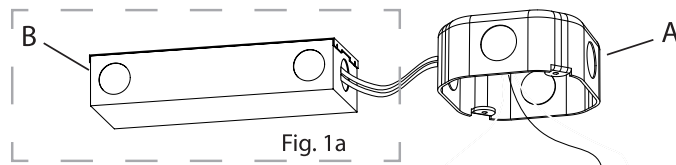
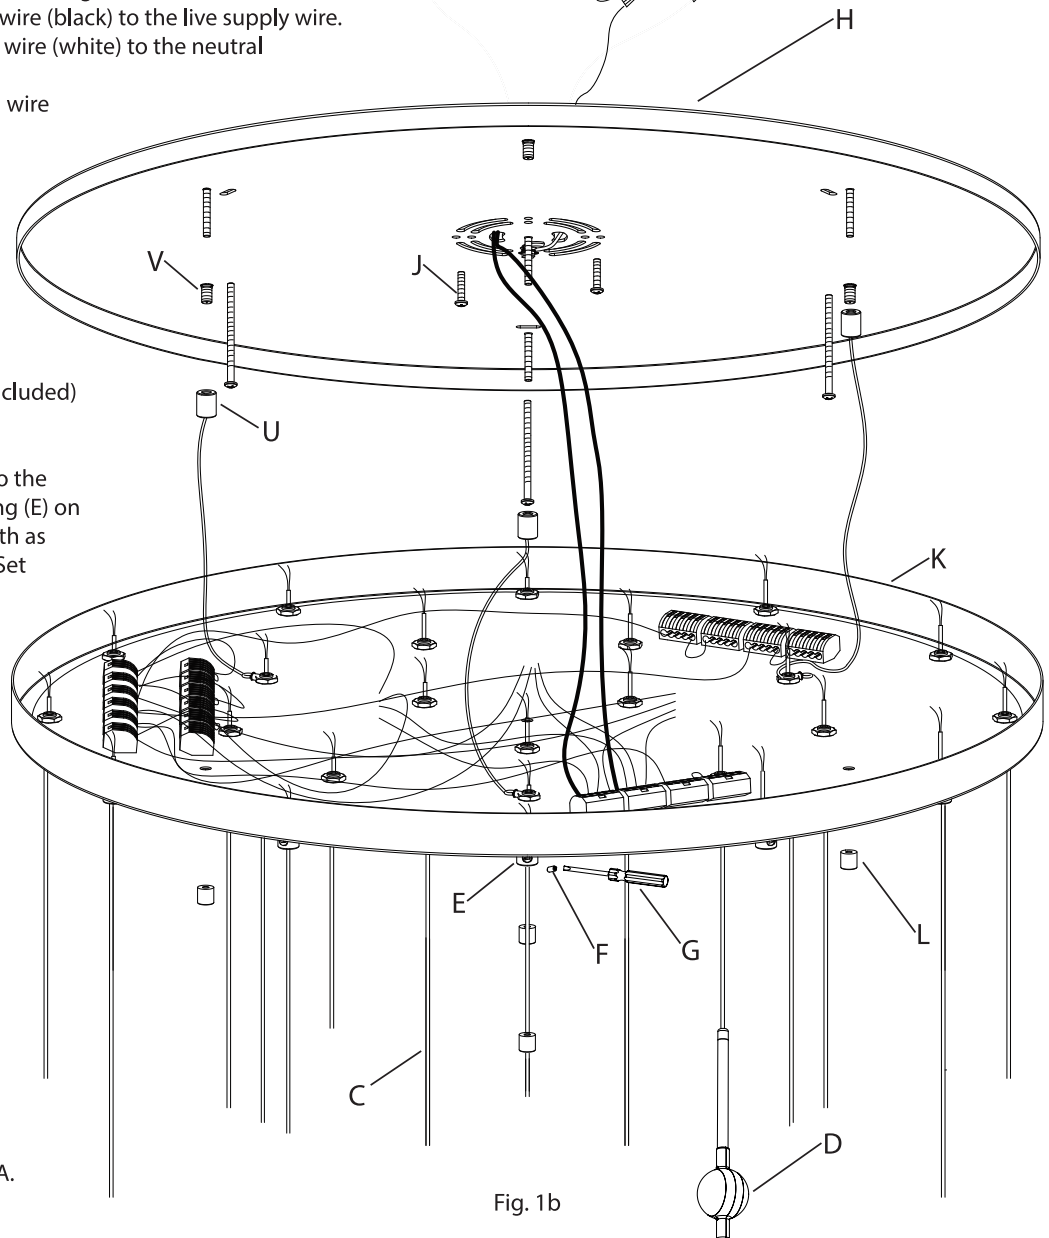

Fig. 1a
Fig. 1b
**Remote Power Supply Installation (Fig. 1a):**
1. Shut off power to the Outlet Box (A).
2. Install the Power Supply (B) in a remote and accessible location near the fixture in accordance with local electrical code. Make appropriate electrical connections using wire nuts:
- a. Connect the Power Supply's (B) live wire (black) to the live supply wire.
- d. Connect the Power Supply's positive (+) output wire to the required length of red wire (not included) to reach the Outlet Box (A).
**Power Feed Installation (Fig. 1b):**
3. Feed the Power Connector Cord (C) to the Universal Hub (D) through the Bushing (E) on the Power Feed. Adjust the cord length as desired, and secure with the Slotted Set Screw (F) using the provided Screwdriver (G). Reserve excess Cord in the canopy (K).
4. Attach the Mounting Plate (H) to the Outlet Box (A) using the two Outlet Box Screws (J).
5. Connect the fixture wires to the lever nuts (R) by pulling up on the lever for an empty slot, inserting the wire, and pushing the lever back down to lock. The inner stranded conductor (S) and the outer braided conductor (T) on each cord (D) must be connected to separate lever nuts, as shown in Appendix B. Reserve extra cords (D) and lever nuts (R) in the canopy (K). If shortening of the cords is necessary refer to Appendix A.
6. Screw safety straps (U) from canopy to studs (V) on mounting plate (H).
- a. Connect the positive (red) low voltage wire from the Power Supply (B) to the red side (inner, jacketed conductor) of the Power Connector Cord (C).
- b. Connect the negative (black) low voltage wire from the Power Supply to the black side (outer, braided conductor) of the Power Connector Cord (C).
8. Install the Canopy (K) to the Mounting Plate (H) and secure with Canopy Nut (L).
9. Restore power to the outlet box (A)